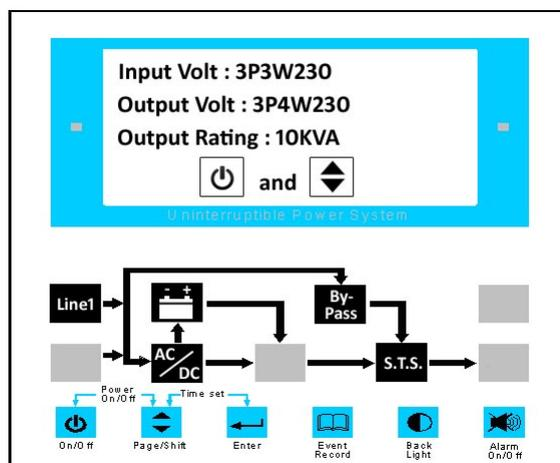

Figure 14 : LCD and Indicators - 2
5. Switch ON 「9. Mains Input N.F.B.」 (see Figure 4). The indicators will light and LCD will show as Figure 14.
6. Switch ON 「 10. Bypass (Reserve) Input N.F.B. 」 (see Figure 4). The indicators and LCD remain as Figure 14.
7. Switch ON 「 12. Output N.F.B. 」 (see Figure 4). **Be careful that the output has power from the utility AC power now.** The indicators and LCD remain as Figure 14.